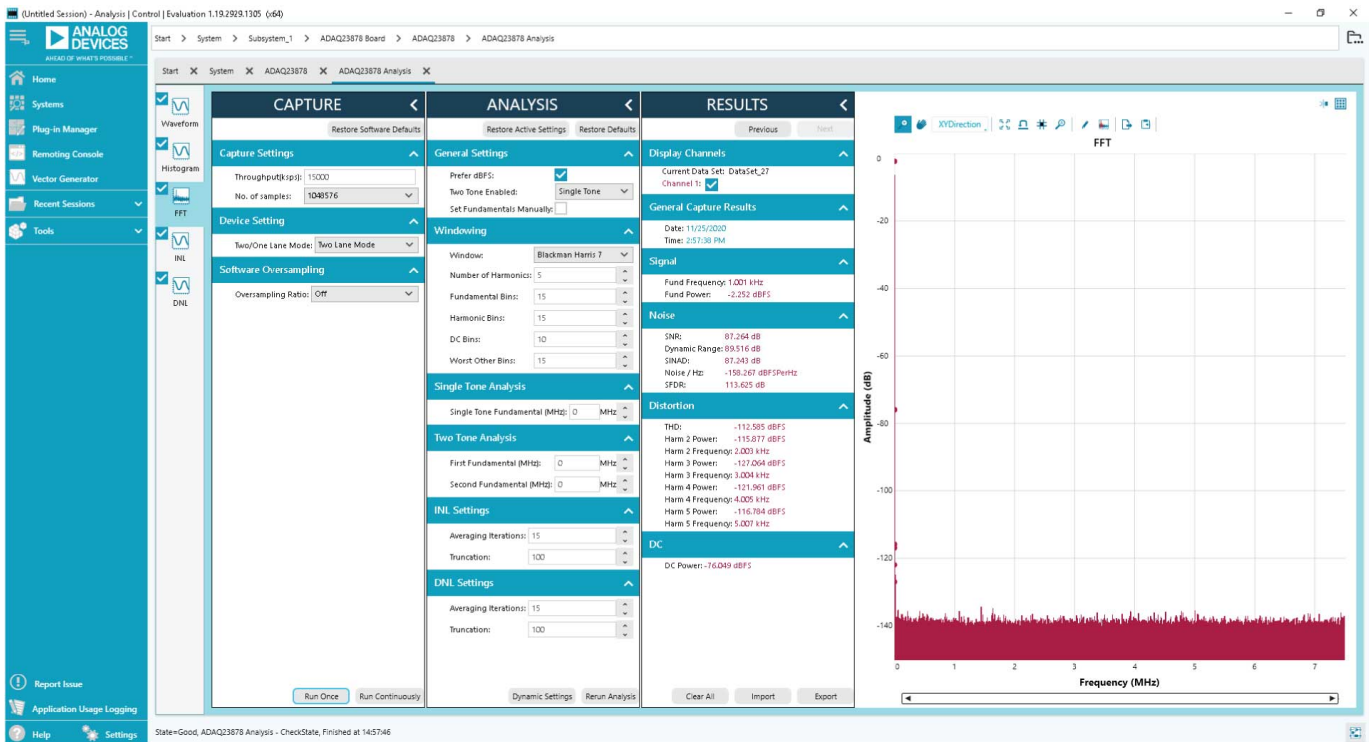
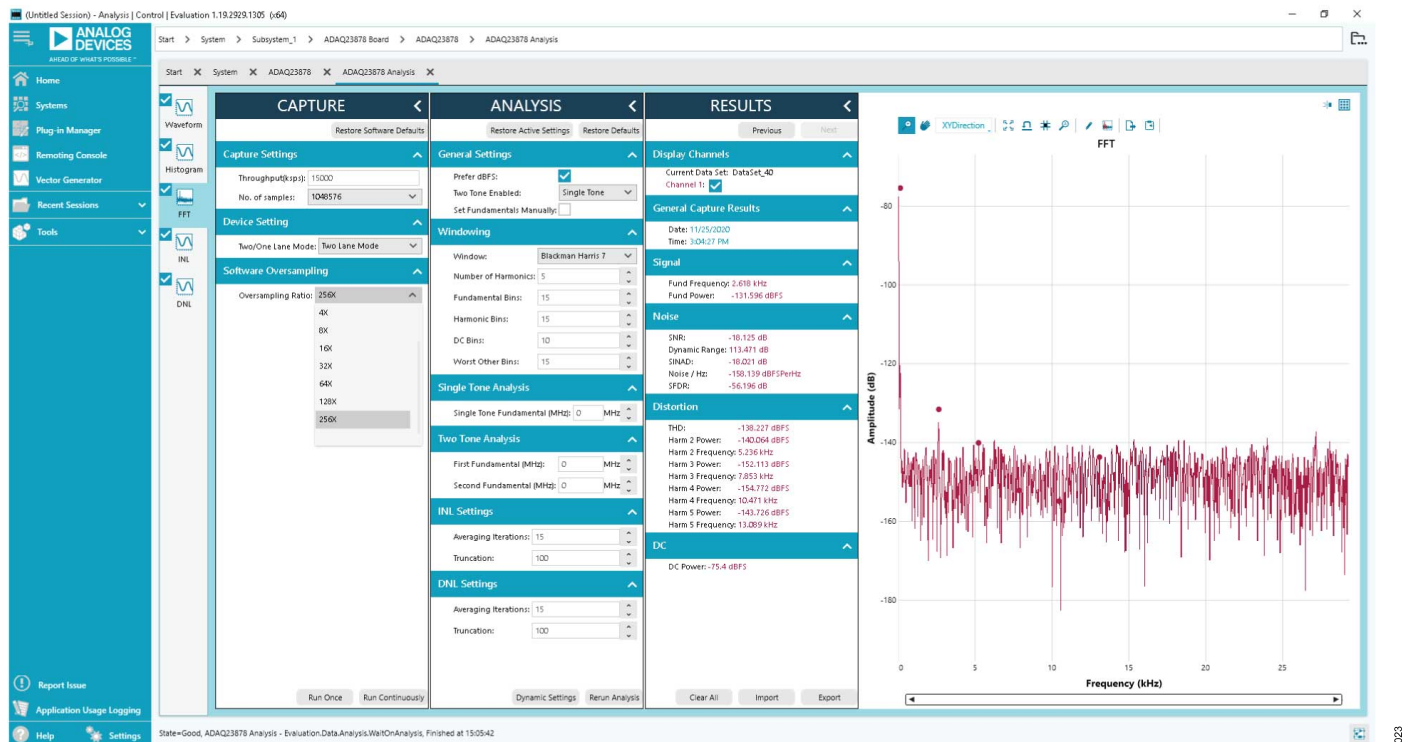

Figure 20. FFT Tab
Figure 21. FFT with Oversampling (OSR) of 256x, Inputs Shorted
The **FFT** tab displays FFT information for the last batch of samples gathered, as shown in Figure 20. The **FFT** tab also allows the oversampling function with an oversampling rate (OSR) up to 256 \times , as shown in Figure 21. Oversampling by a factor of four provides one additional bit of resolution, or a 6 dB increase in the dynamic range (DR) of the ADAQ23876 or ADAQ23878. In other words,